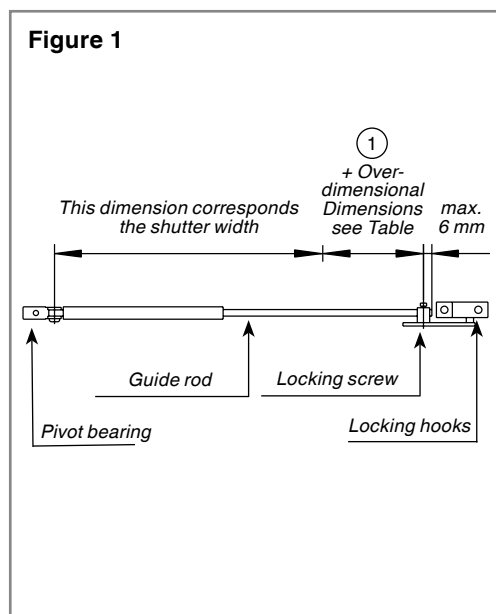

Figure 1
- Loosen the locking screw and shorten the guide rod (Fig. 1).
- Pull out the guide rod (important for pre-loading) and connect by fixing the clamping screw (fig. 1).